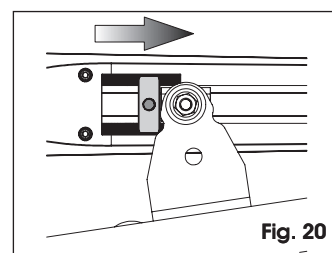

Fig. 20
4. Move the mechanical stop until it is close to the front fitting, as indicated in figure 20.